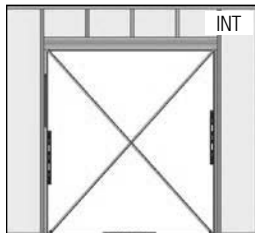

FIG. 2
- B) Verify the rough opening is plumb, level and square. For doors with clad exterior casings, additional nailer studs may be required around the perimeter of the rough opening. (Fig. 2)
- C) Take diagonal measurements to check for square. (Fig. 2)
- D) Make sure the bottom sill area of the rough opening is flat and level. Correct rough opening if sloped toward the interior, out of level or humped. (Fig. 2)